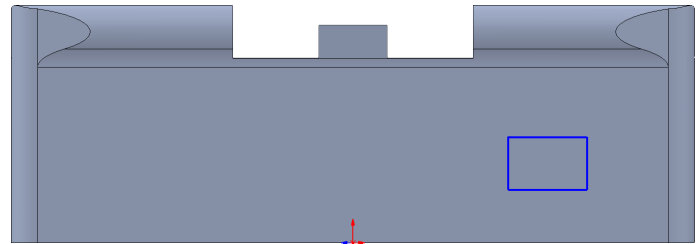
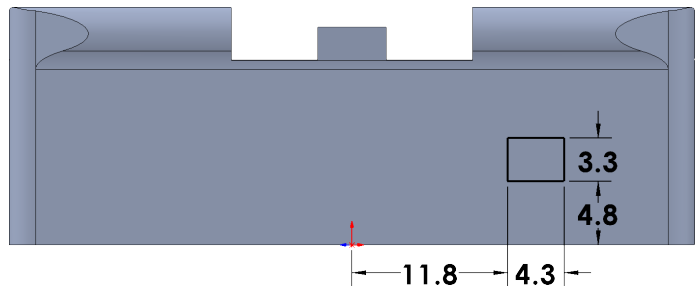

Fig. 84
Fig. 85
Step 4. Sketch corner rectangle, Fig. 84.
Step 5. Click **Smart Dimension** (S) on the Sketch toolbar.
Step 6. Add dimension, Fig. 85.